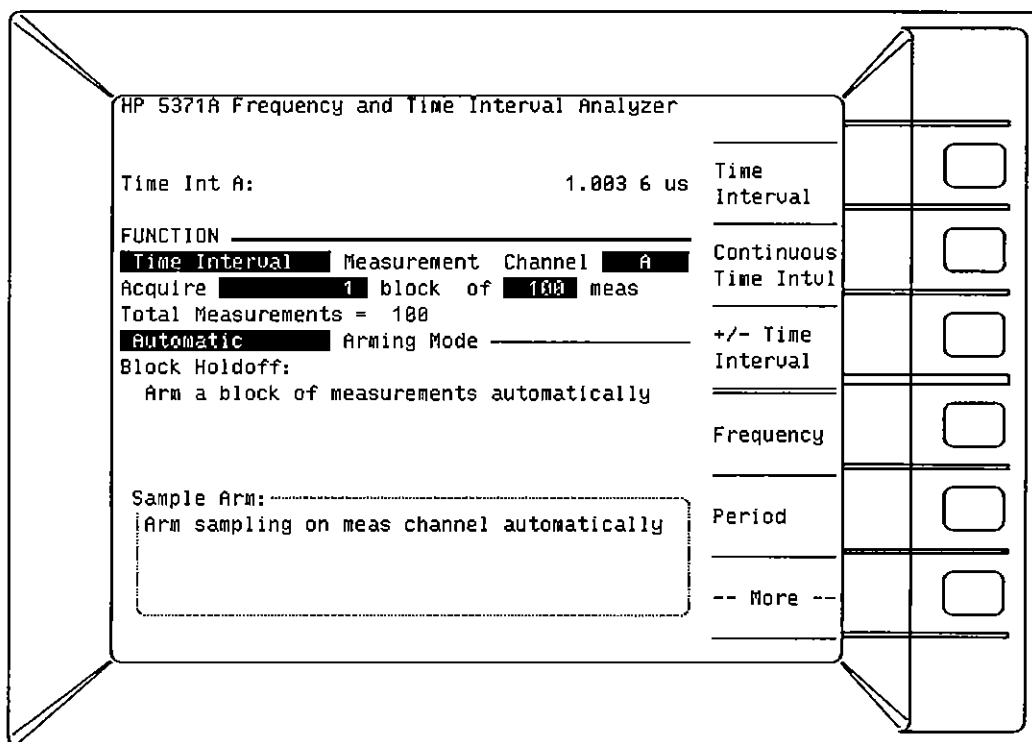

Figure 1-18. Preset Function Screen
1. Press the PRESET key to place the HP 5371A into a default operating condition. The FUNCTION menu should look like the one shown in Figure 1-18.